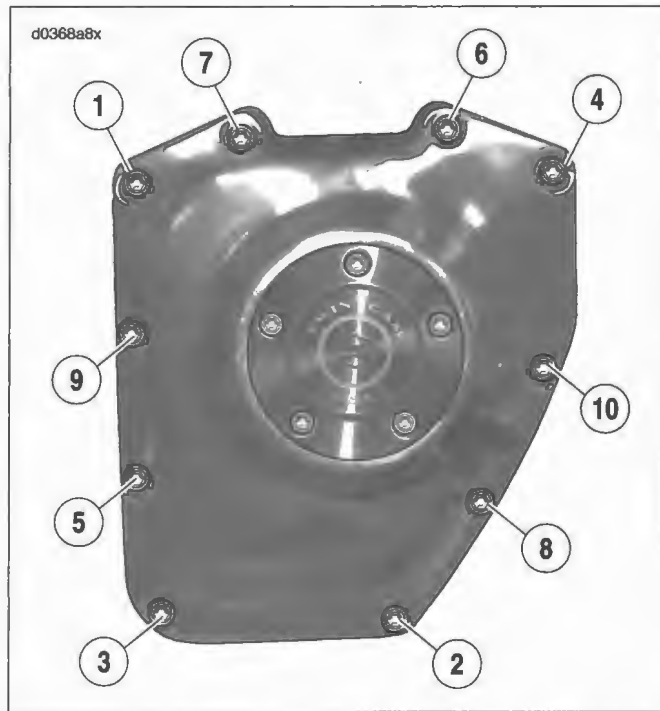

Figure 3-85. Cam Cover Installation: Alternately tighten cover screws to 125-155 in-lbs (14.1-17.5 Nm) in the sequence shown.
16. See Figure 3-85. Install the cam cover using ten allen head socket screws (1/4 x 1-1/4 in.). Following the sequence shown, alternately tighten the screws to 125-155 **in-lbs** (14.1-17.5 Nm). If cam cover assembly was completely removed continue as follows.